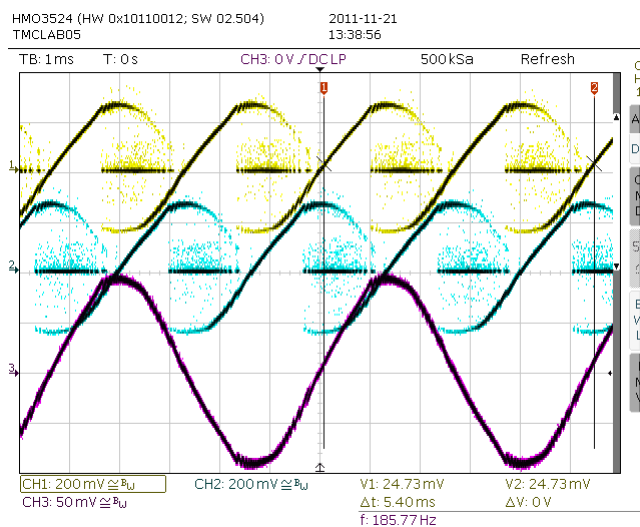

Figure 2.2 Velocity too high – motor current cannot follow
You might want to check the current waveform using an oscilloscope. The oscilloscope should show a pure sine wave as shown in Figure 1. In case, the sine wave is distorted like shown in Figure 2.2, the motor velocity is too fast, or the supply voltage is not high enough. A distortion as shown in Figure 2.3 is a hint for a too low blank time setting. Increase *TBL* by one. Other distortions are a hint to a layout problem.
At high velocity, the motor resonance must be kept low, in order to maintain torque as high as possible. Microstep waveforms play a reduced role, as the waveform cannot be maintained in this velocity range anymore (see Figure 2.2), getting worse with each increase in velocity. Fullstepping sometimes brings a few percent increased motor torque. For high velocity behavior, it is more important to operate the motor with its application specific load or in its application environment, but you can do first tests by braking the motor with your fingers, in order to assess its torque before it stalls.
4. Figure out a velocity threshold *VHIGH* for switching to fullstepping. The threshold can be determined using an oscilloscope and finding the velocity, above which the microstep sine wave cannot be maintained, as shown in Figure 2.2, or, by assessing motor noise and vibration.